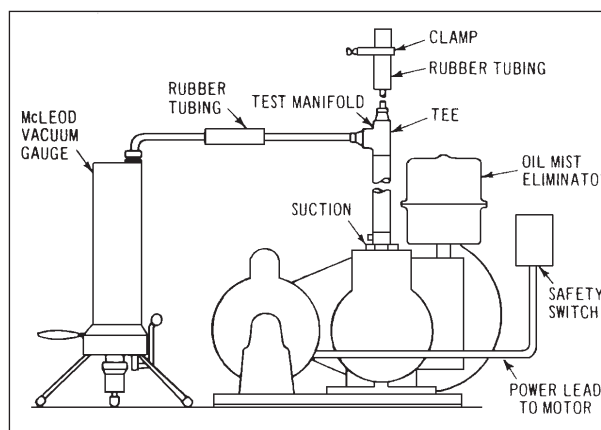

Figure 6-1 – Pump Test Manifolding
NOTE: If possible, also read the blank-off pressure with a thermistor or thermocouple gauge. See **Figure 6-1** and **Table 6-1** for common faults in vacuum systems.
1. Close off the pump inlet by means of a vacuum valve or short segment of manifolding, as shown in **Figure 6-1**.